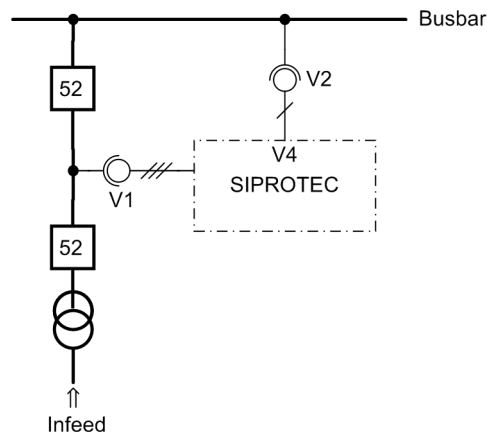

Figure 3-36 Measuring voltages for the synchro-check
- Then the circuit breaker is closed while the line isolator is open (see Figure 3-36). Both voltage transformers therefore measure the same voltage.